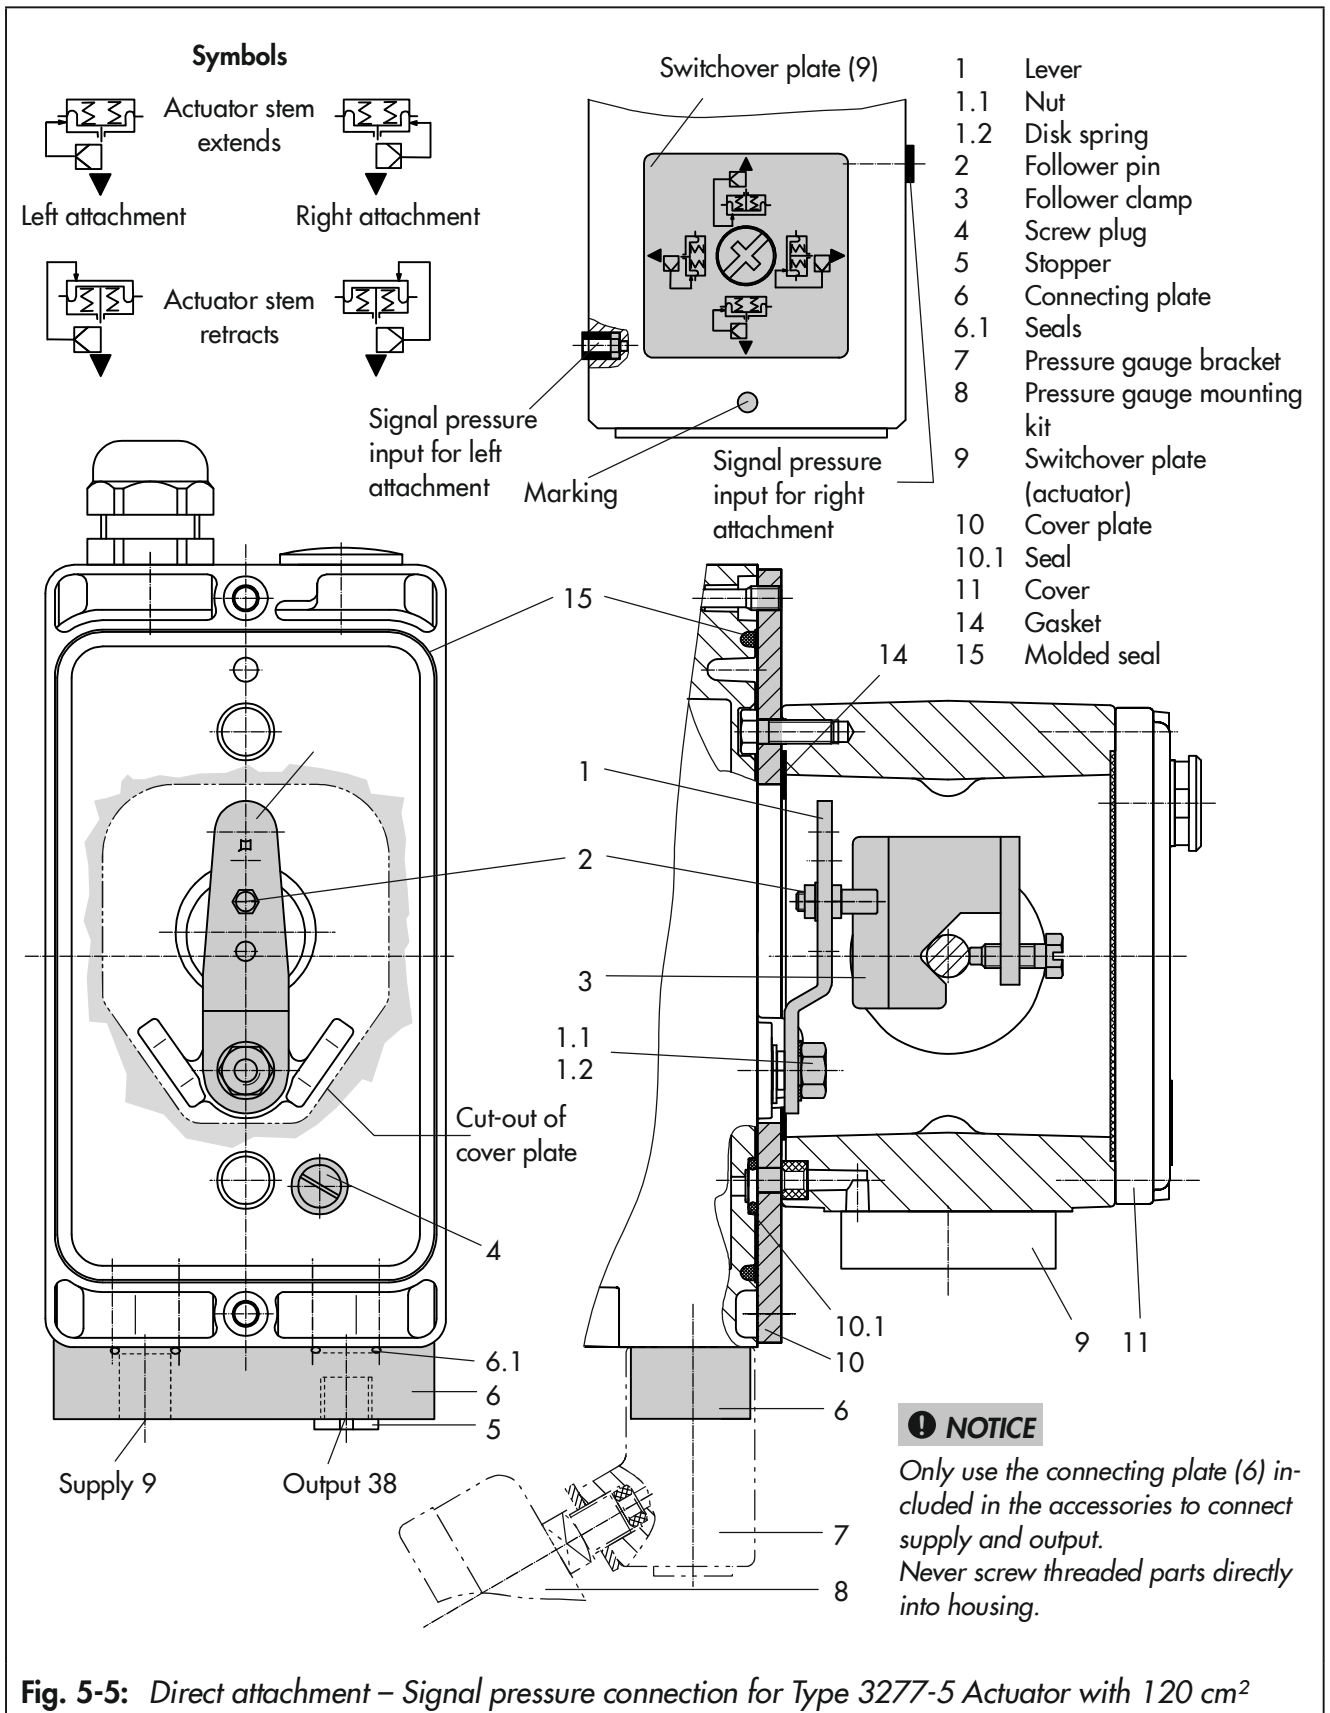

Fig. 5-5: Direct attachment – Signal pressure connection for Type 3277-5 Actuator with 120 cm2
##### Actuator with 120 cm2 (see Fig. 5-5)
4. Mount cover plate (10) with narrow side of the cut-out (Fig. 5-5, on the left) pointing towards the signal pressure connection. Make sure that the gasket (14) points towards the actuator yoke.
5. **15 mm travel:** Keep the follower pin (2) on the M lever (1) on the back of the positioner in the pin position 35 (delivered state).
**7.5 mm travel:** Remove the follower pin (2) from the pin position 35, reposition it in the hole for pin position 25 and screw tight.